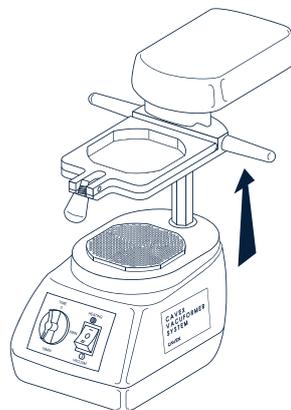

Fig. 2
2. Slide the frame upwards (Fig. 2).